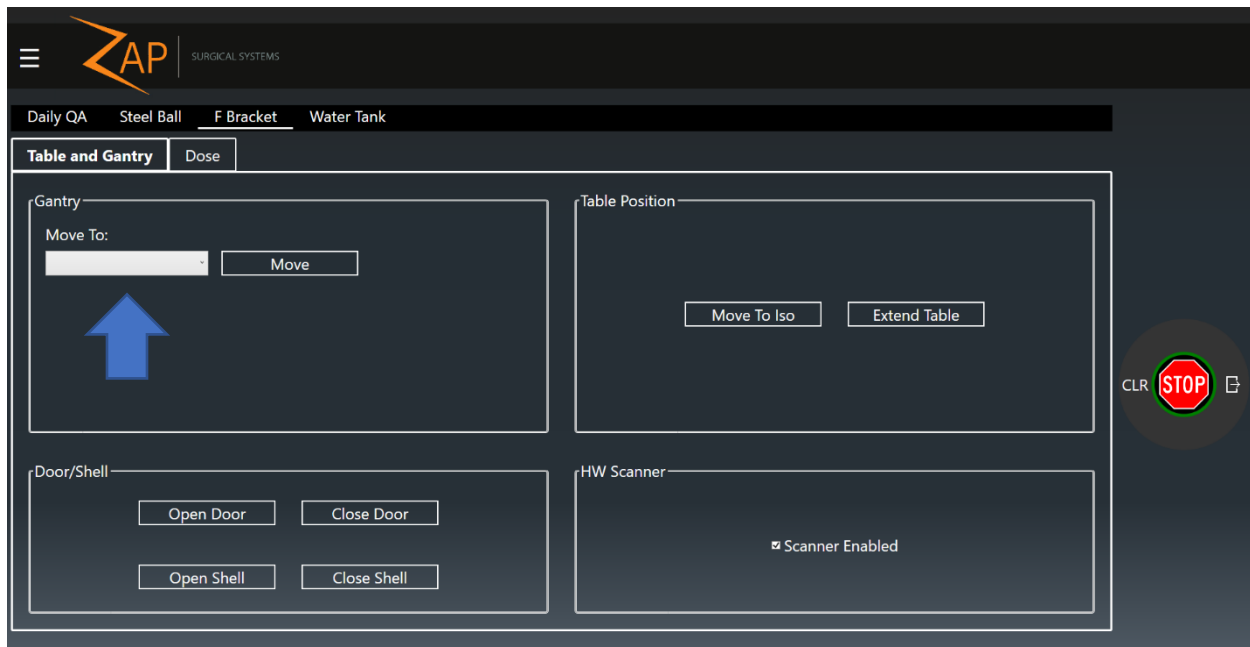

Figure 3-14 F Bracket page, Table and Gantry tab. Arrow highlights selection of desired gantry position.
3. Verify that the system is at the Home position, if not, click on the **Daily QA** Icon. Then select the **F Bracket** page and the **Table and Gantry** tab. In the dropdown box for **Gantry, Move To:** select Home and then click **Move** (see Figure 3-14).
3. Verify that the system is at the North Pole position, if not, click on the **Daily QA** icon. Then select the **F Bracket** page and the **Table and Gantry** tab. In the dropdown box for **Gantry, Move To:** select **North Pole** and then click **Move** (see Figure 3-14).
3. Verify that the system is at the desired position, if not, click on the **Daily QA** Icon. Then select the **F Bracket** page and the **Table and Gantry** tab. In the dropdown box for Gantry, Move To: select the desired location and then click Move (see Figure 3-14).